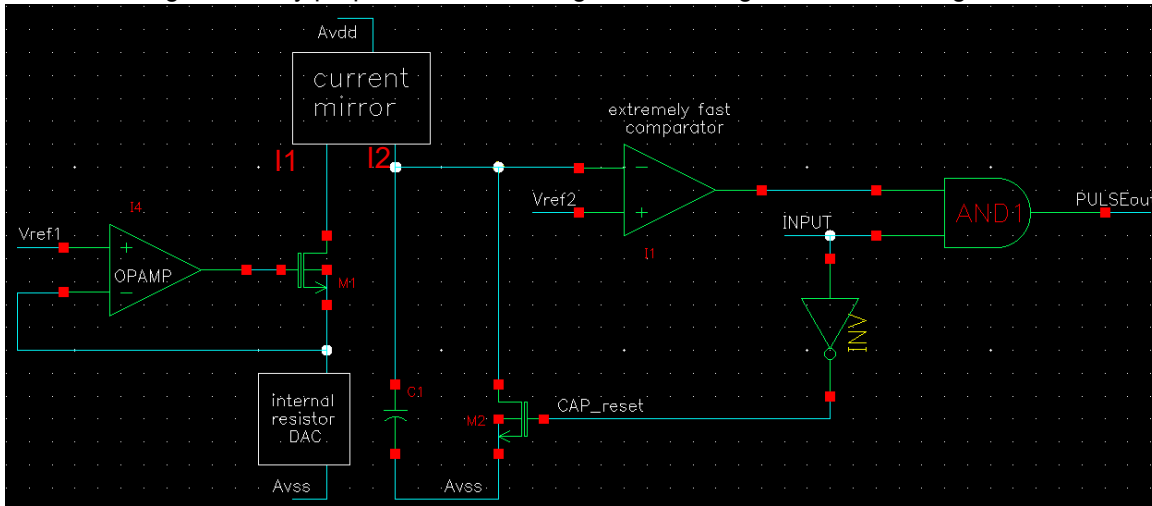

Figure 5: Flux Timing Generation
The timing for Fluxing, Charging (mode1 only), and Firing is controlled by the circuit in Figure 5. A current (I_1) is set-up by forcing a voltage (V_{ref1}) across a DAC programmable resistance value. That current (I_1) is then mirrored to a current I_2 and used to charge a capacitance to a voltage level (V_{ref2}). When the CLK signal goes high, the FluxOut signal will go high until the capacitor is charged to the V_{ref2} level. The FluxOut high time will follow Equation 2.